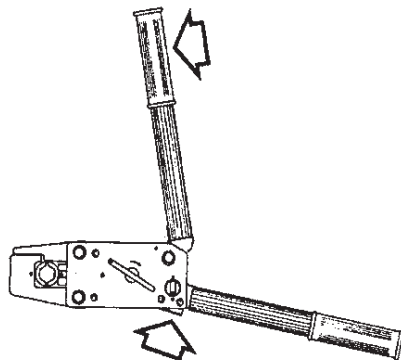

Fig. 2
4. If the connector happens to be wrongly placed relative to the dies, place the movable handle in farmost position, press the release catch and turn the rapid feed lever to lower the die and release the connector. If the crimp is already partly made, the crimp force may make it necessary to apply some force to the movable handle in order to be able to press the release catch. A plier or the like may if the tool is subject to higher crimp force be carefully used to reverse the fast feed lever, fig 2, page 6.